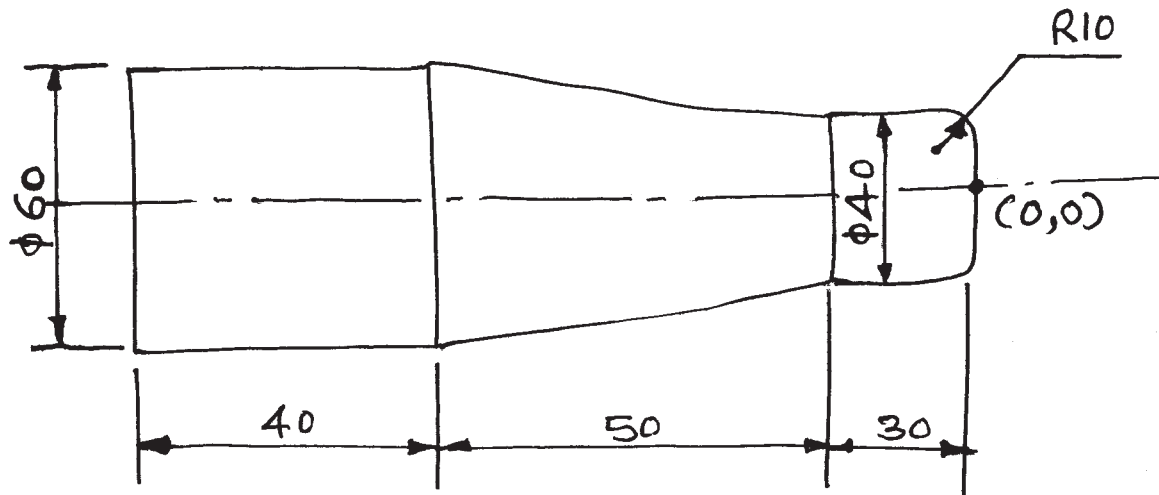

Fig. No. 1
- Write a part program for job as shown in Fig. No. 1. Take only finish cut. Use, Spindle speed = 1500 rpm and feed rate = 0.1 mm/rev. Assume suitable data if necessary.